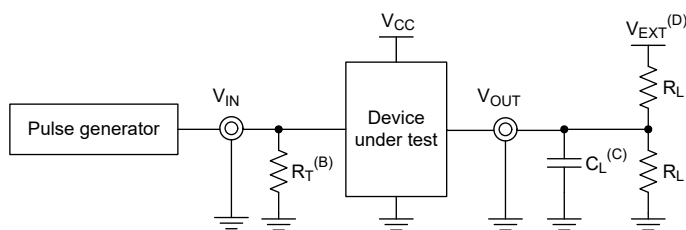

图 6-1. Load Circuit
2. Waveform 1 in Figure 6-3 is for an output with internal such that the output is high, except when OE is high (see Figure 6-1). Waveform 2 in Figure 6-3 is for an output with conditions such that the output is low, except when OE is high.